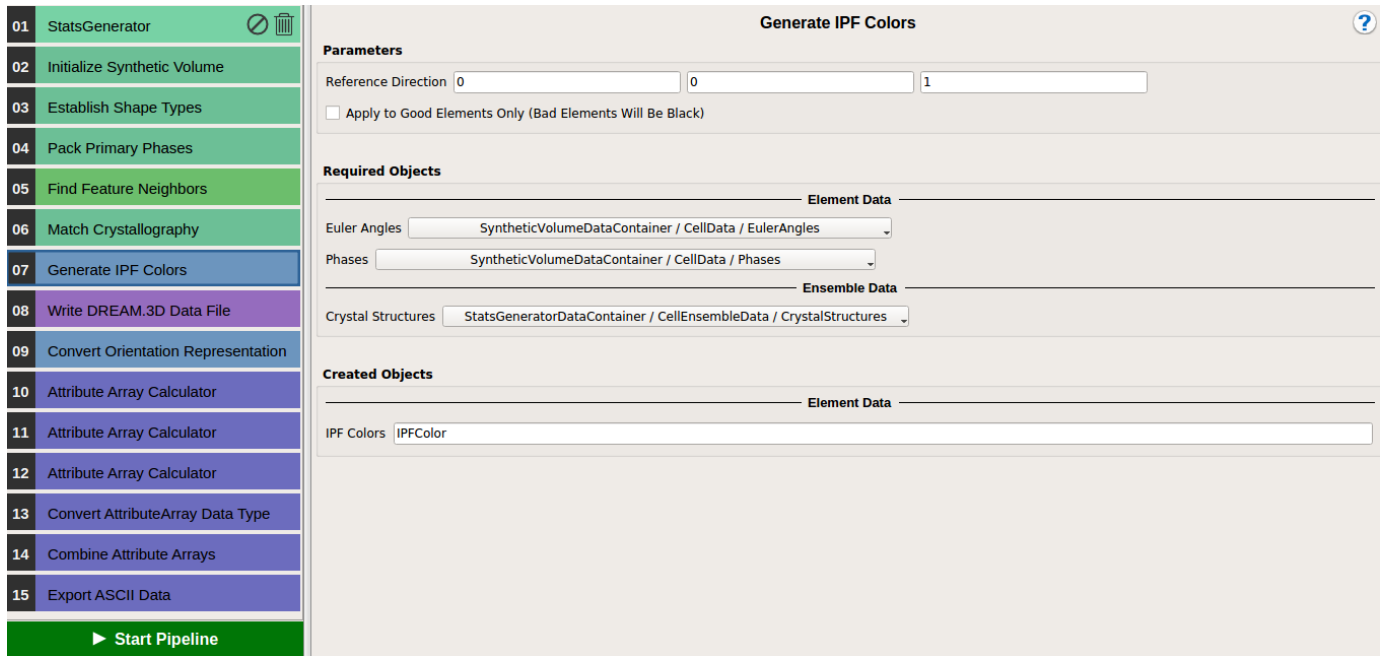

Figure 11: Generate IPF colors
10. Copy the **Generate IPF Colors** filter to the pipeline window to render colors to every grain depending on the orientation representation in the stereographic triangle. Set the reference direction to [0 0 1](Fig. 11).